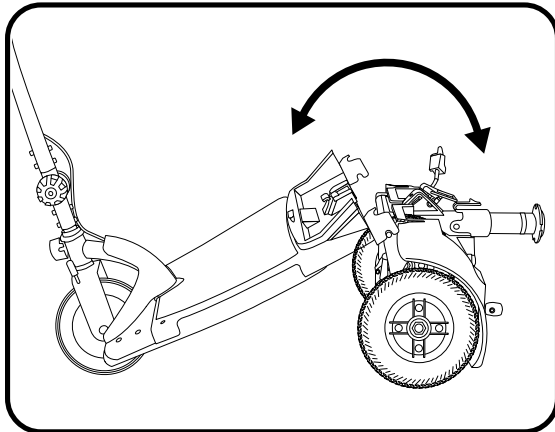

Figure 16. Frame Positioning
2. Push back on the seat post to pivot the scooter's rear section rearwards until the rear section is standing vertically on its rear bumper. **See figure 16.**
3. Holding the seat post, slowly pivot the rear section forward until the curved locking brackets are fully connected onto the top rear pegs. **See figure 16.**